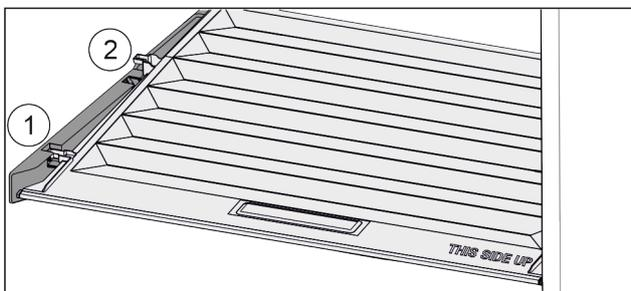

Fig. 27
- ▶ Pull the lid up at the front to the opening in the retaining parts Fig. 27 (1).
- ▶ Lift from the back and pull it up and out Fig. 27 (2).